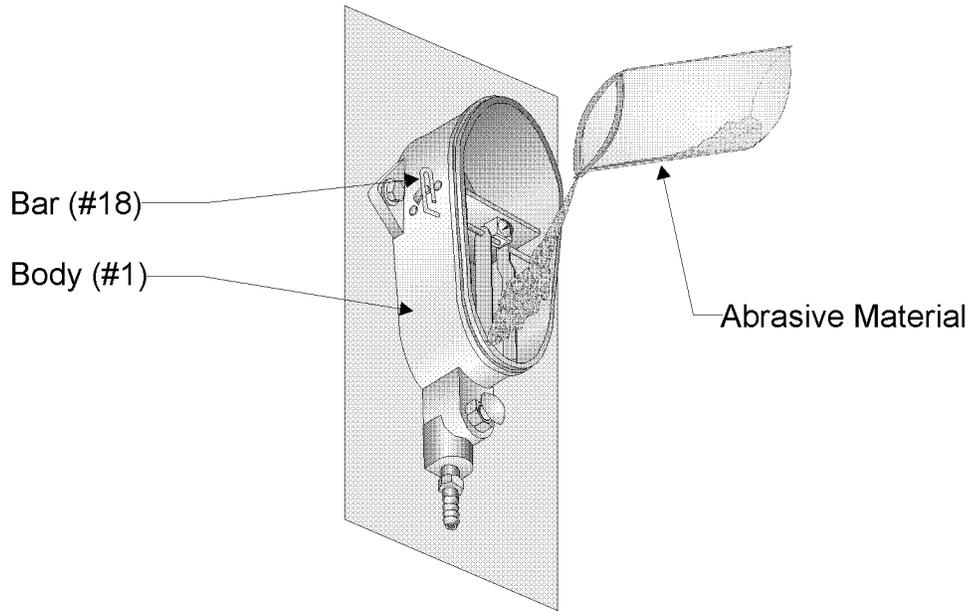

Figure 2 — Bar Position
Step 3: Make sure the BAR (#18) is in the indicated position as shown in Figure 2. Place the contents of the bag of Abrasive Material into the lower reservoir in the BODY.